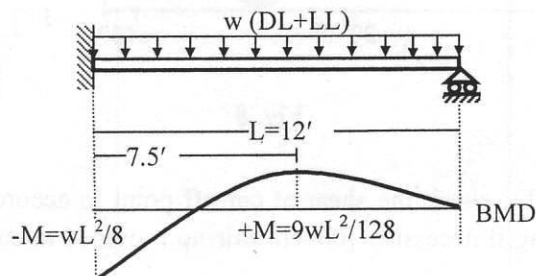

Fig. 11
14. Fig.11 shows a one way slab fixed at one end and simply supported at the other end. The slab is to be designed to carry a uniformly distributed service live load of 200 psf. The dead load due to floor finish is 50 psf. Design the slab using USD method. Show details of reinforcing steel both in the longitudinal and transverse directions.